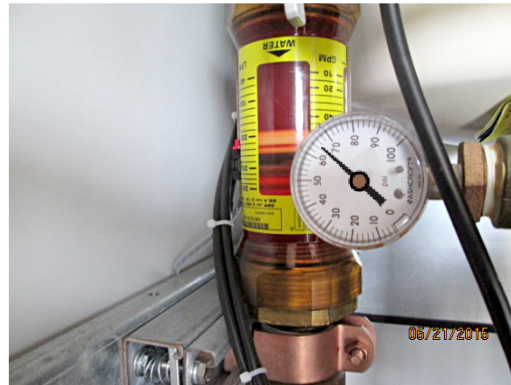

Figure 19: Flow gauge reading 60 to 70 GPM
34. Turn pump off and start again with 5 second delay to ensure flow gauge does not stick in place and that 60 to 70 GPM flow is recorded. See Figure 19.